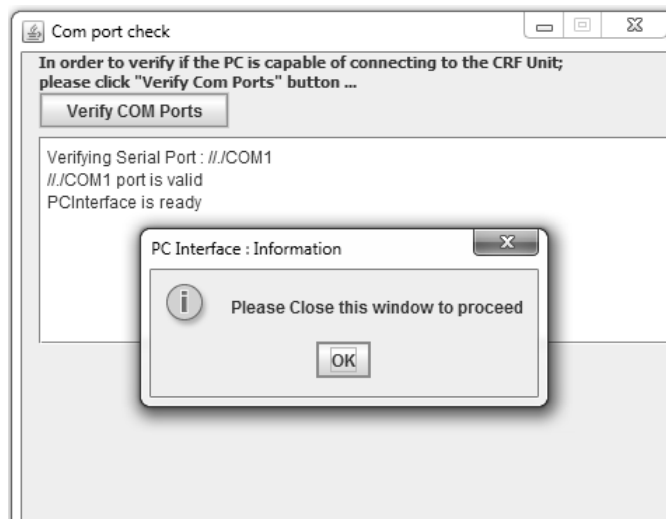

Figure 10-12. After COM Port check – when valid com port found
14. On clicking Verify COM Ports button, the application will start identifying the available COM ports and start establishing the connection. When Valid COM Port is found, then it displays Port is Valid and PC Interface application is ready, as shown below figure 10-12.